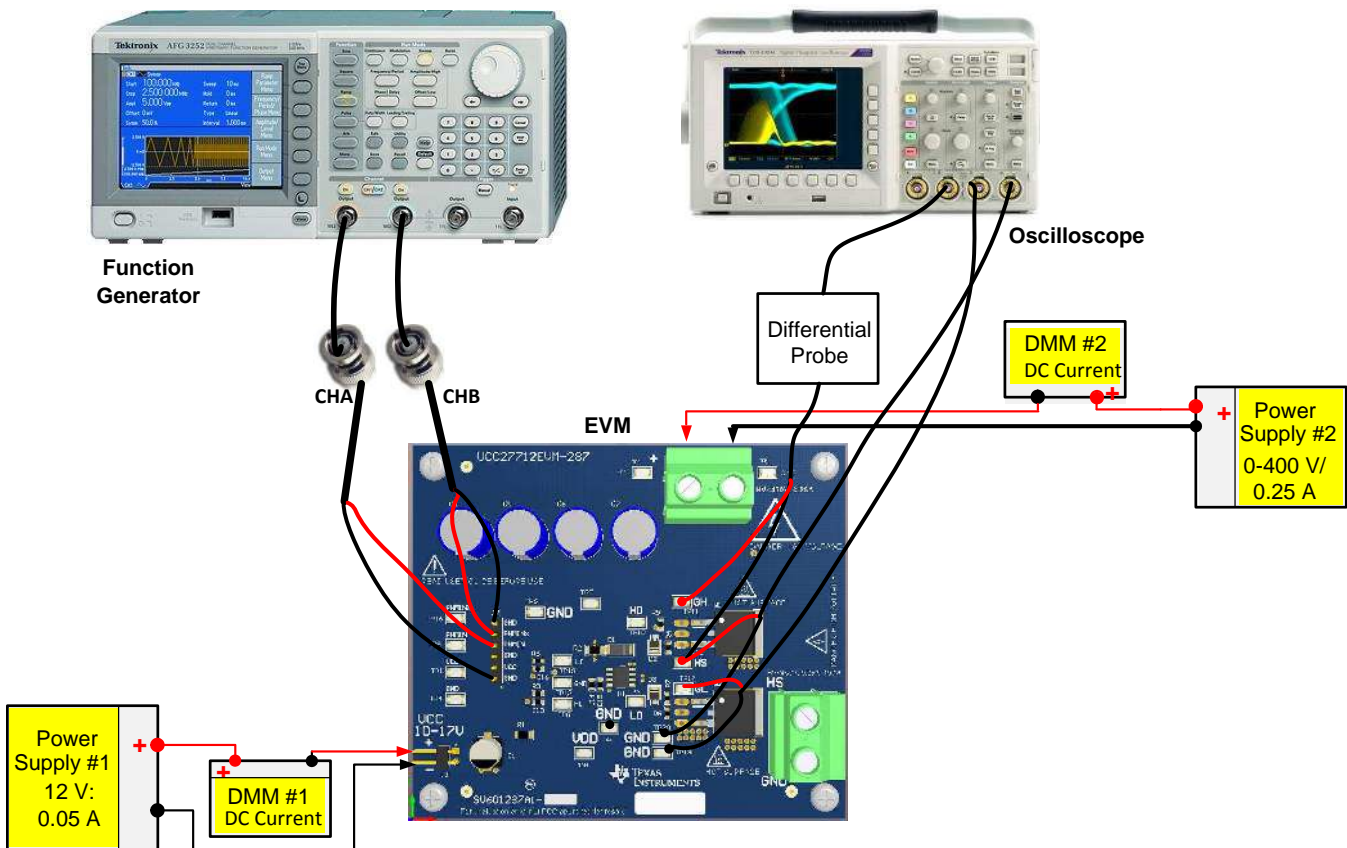

Figure 1. Bench Setup Diagram and Configuration
Use the following connection procedure, and Figure 1 can be used as a reference:
1. Before proceeding to the power-up test procedure, please make sure that Figure 1 is implemented for setting up all the equipment. Use Figure 1 as a reference.